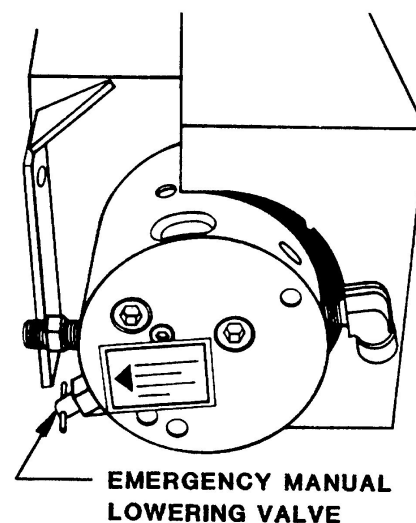

Figure 1-6
The Emergency Manual Lowering Valve is located at the base of the hydraulic pump (See Figure 1-6) and is intended to be used as an emergency "down" valve in the event of power failure or down relay/lowering valve failure. Turn the "T-handle" counterclockwise until load descends. After cylinder is lowered, turn the "T-handle" clockwise to close the valve, and resume normal operation.
1. The boom can be lowered by releasing the cylinder fluid through the Emergency Lowering Valve located at the base of the hydraulic pump (See Figure 1-6).